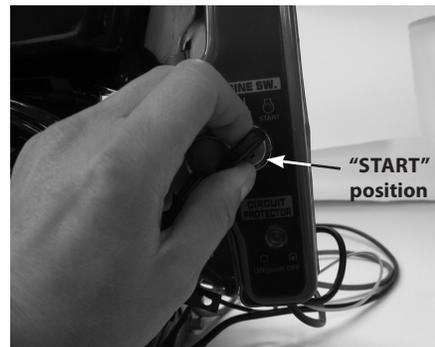

FIGURE 9
2. Insert key and turn to start. **SEE FIGURE 9.**